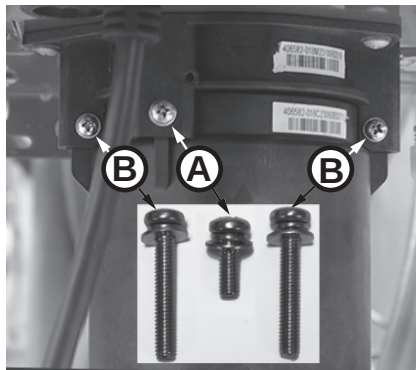

Figure 222 - Identify cartridge screws
- 6 Locate the three (3) screws securing the X3®/Bypass cartridge as shown in Figure 222. Remove the (A) M4-12mm screw and the two (B) M4-25mm screws from cartridge. Place screws aside in a safe place for reinstallation.